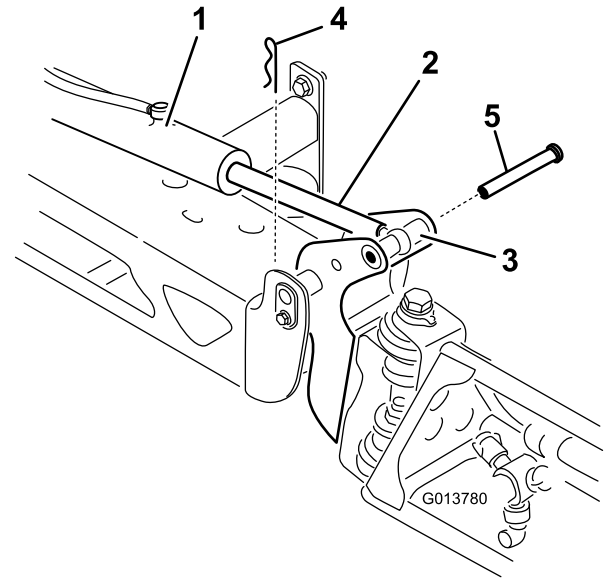

Figure 47
2. Remove the cotter pin from the pivot pin (Figure 47).
3. Lift up on the boom and remove the pin (Figure 47). Slowly lower the boom to the ground.
7. While holding the boom, insert the pin through both boom pivot and actuator rod (Figure 47).